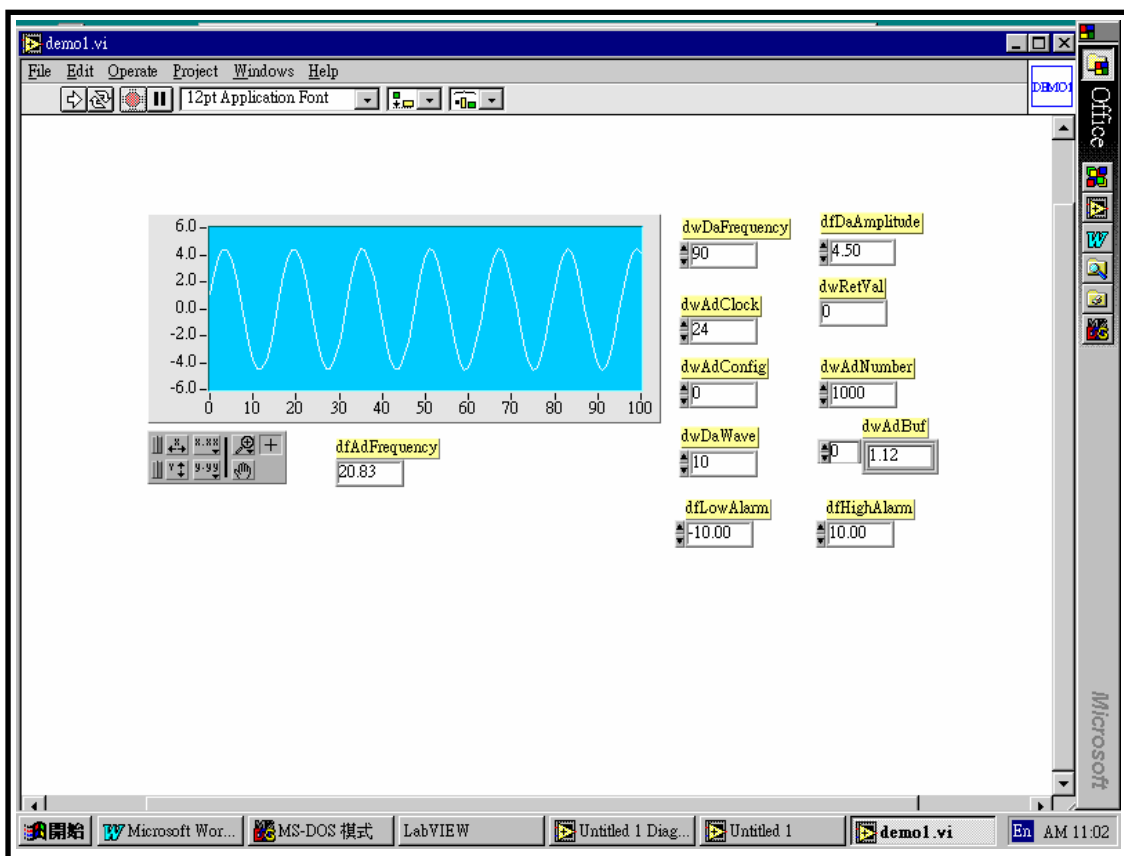
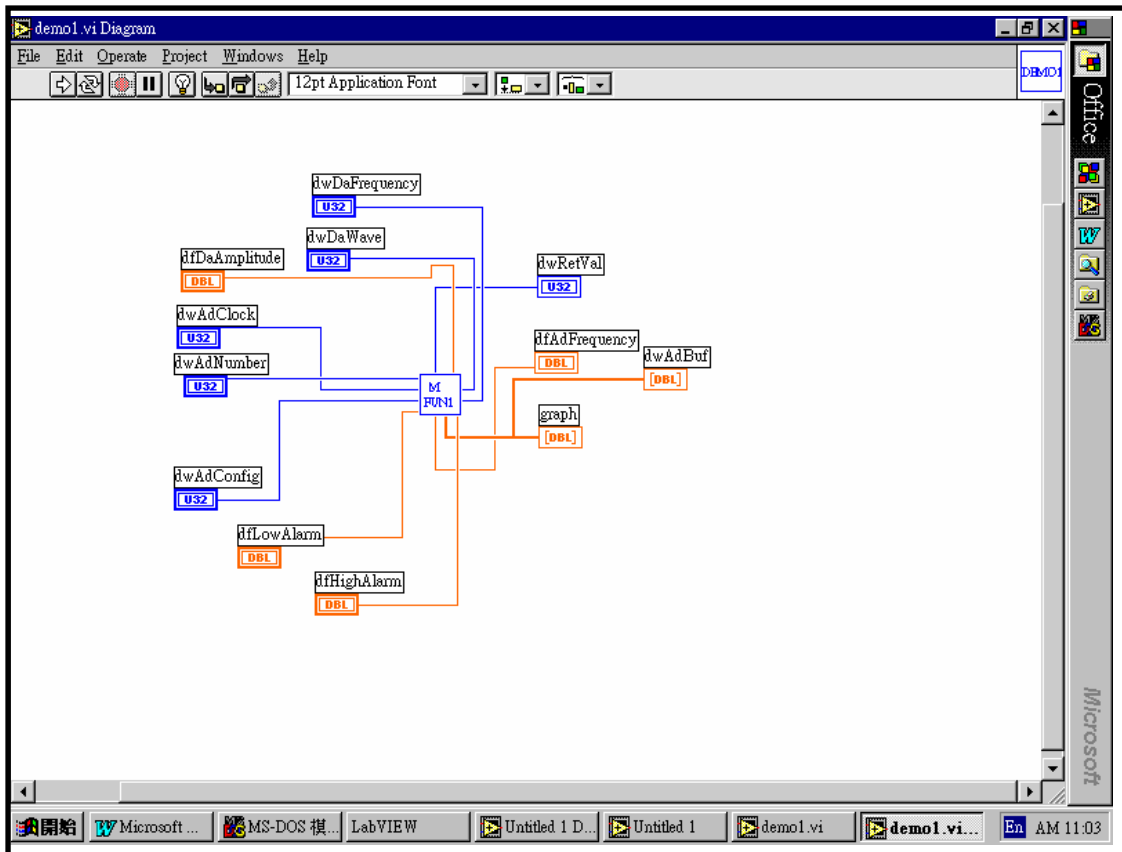

Fig 8. The Output of DEMO1.VI (call M_FUN_1)
Fig 9. The Connection Diagram of DEMO1.VI (call MFUN1.VI)
2. The demo1.VI will call MFUN1.VI to perform M_Functions. The M_Functions can send an arbitrary waveform to the D/A output and perform A/D input at the same time. If D/A channel_0 is connected to A/D channel_0, M_Functions can measure the D/A output back. The output response is shown in Fig 8 and the connection diagram for demo1.VI is given in Fig. 9.